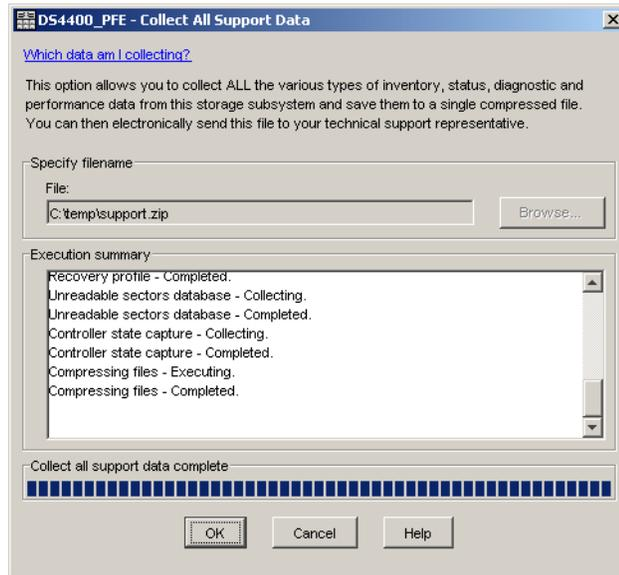

Figure 6-7 Collect All Support Data
2. The Collect All Support Data window (Figure 6-7) opens. Specify the name and location of the zip file that you want to create and then click **Start** to begin the collection.